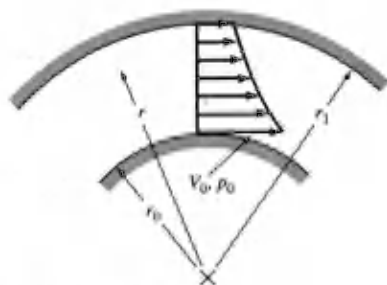

FIGURE P3.2R
3.2R ( $F = ma$  normal to streamline) An incompressible, inviscid fluid flows steadily with circular streamlines around a horizontal bend as shown in Fig. P3.2R. The radial variation of the velocity profile is given by  $rV = r_0V_0$ , where  $V_0$  is the velocity at the inside of the bend which has radius  $r = r_0$ . Determine the pressure variation across the bend in terms of  $V_0$ ,  $r_0$ ,  $\rho$ ,  $r$ , and  $p_0$ , where  $p_0$  is the pressure at  $r = r_0$ . Plot the pressure distribution,  $p = p(r)$ , if  $r_0 = 1.2$  m,  $r_1 = 1.8$  m,  $V_0 = 12$  m/s,  $p_0 = 20$  kN/m2, and the fluid is water. Neglect gravity.